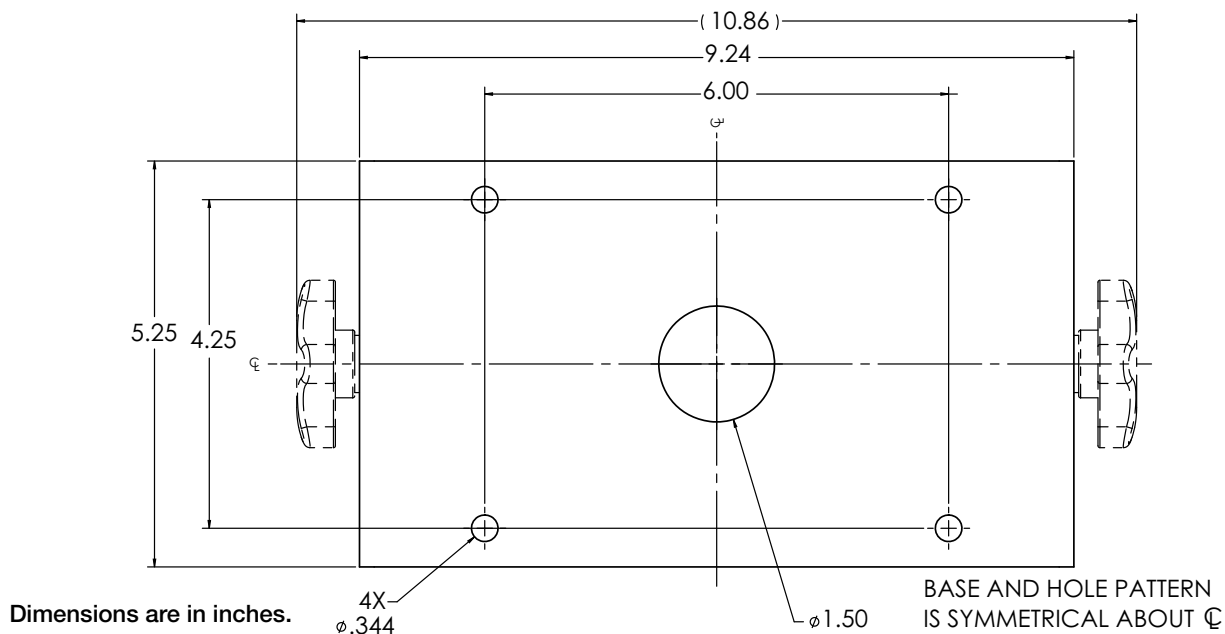

Figure 2-5. Universal Surface Mount Stand Dimensions
1. Using the tilt stand as a template, mark the screw locations. See Figure 2-5 for dimensions.
This illustration is not to scale. It is for illustration purposes only. Use the dimensions in Figure 2-5 to mark the holes for the universal mount, or use the bottom of the tilt stand as a template. Do NOT use Figure 2-5 as a template.